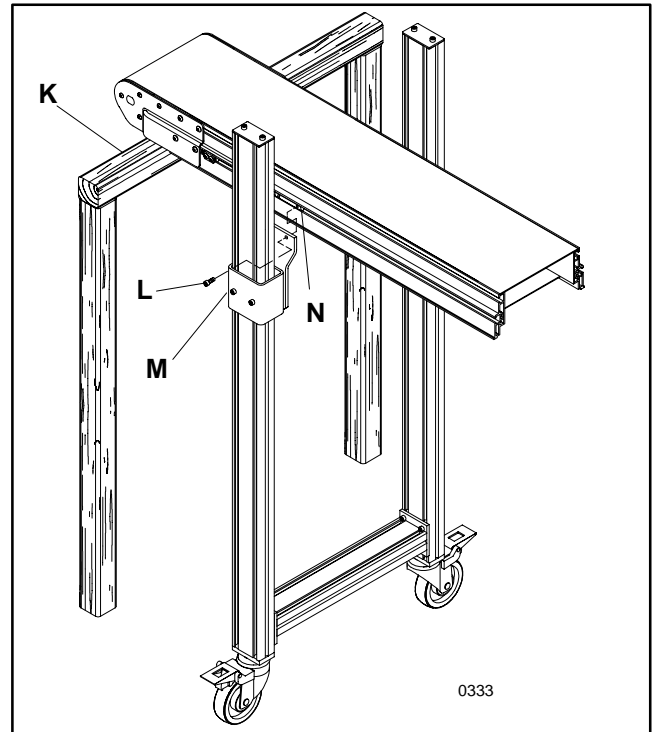

Figure 28
1. Referring to Figure 28, safely and temporarily support the conveyor section with a sturdy support mechanism (K) (such as wooden blocks or a sawhorse).